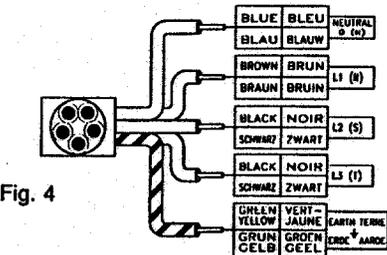

Fig. 4
- The other wires (coloured brown and black) must be connected to the terminals marked L1, L2, and L3 or "R, S, and T". (See figure 4)